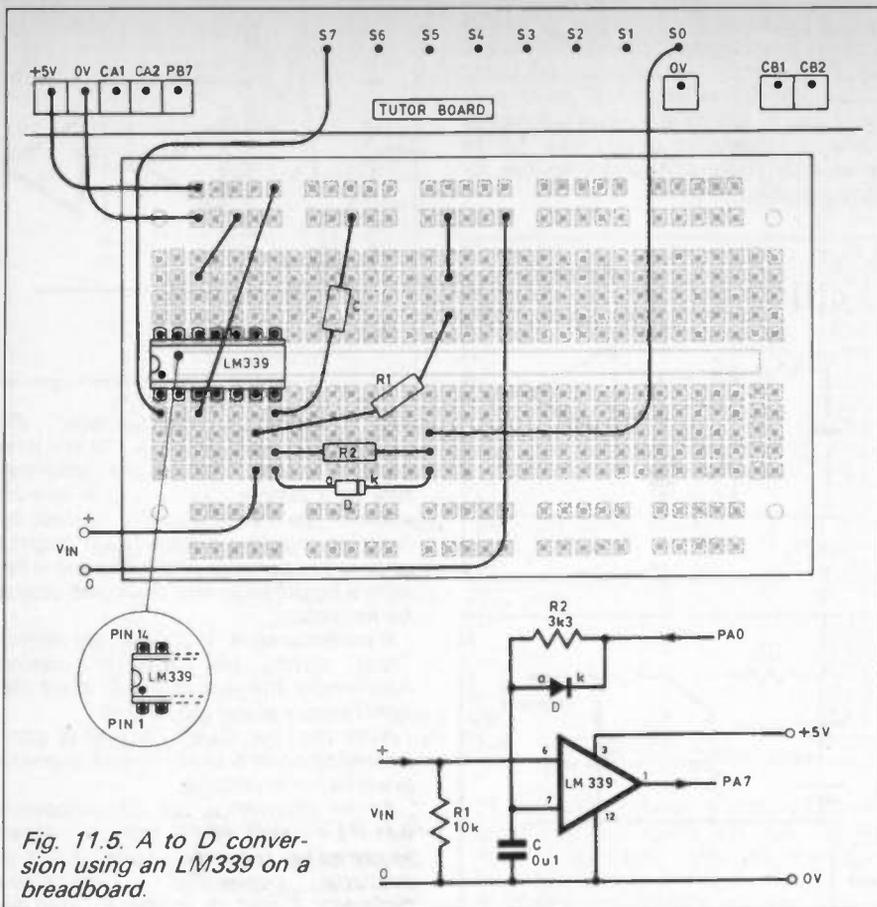

Fig. 11.5 A to D conversion using an LM339 on a breadboard.
**T** Good. Now the LM339 will work quite well with our 5V supply, so set up the circuit shown here (Fig. 11.5) using a bread-board linked to the Tutor sockets. The value of R2 can be altered slightly to give bigger or smaller voltage steps, but the maximum input signal cannot exceed about 4V.